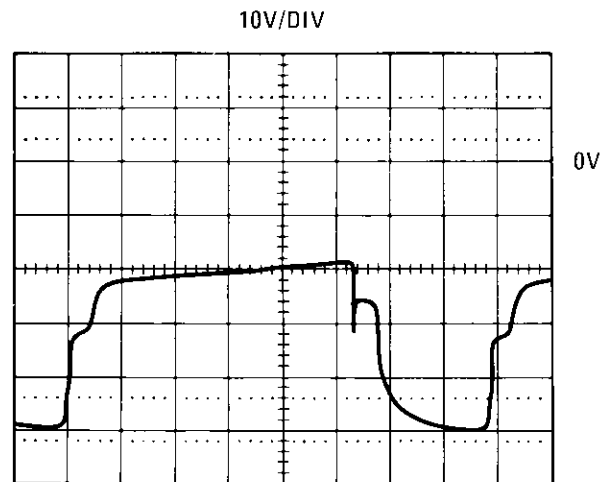

Figure 8-46. Emitter/Coil Waveform (A6P1-20)
2. Press **[INSTR PRESET]** to sweep the entire range of the plug-in. Check TP12 for the waveform shown in Figure 8-46. This represents the voltage (not the current) across the YO's main coil, and will give an indication as to whether current is passing through the coil. If this waveform is correct, suspect the YIG oscillator.